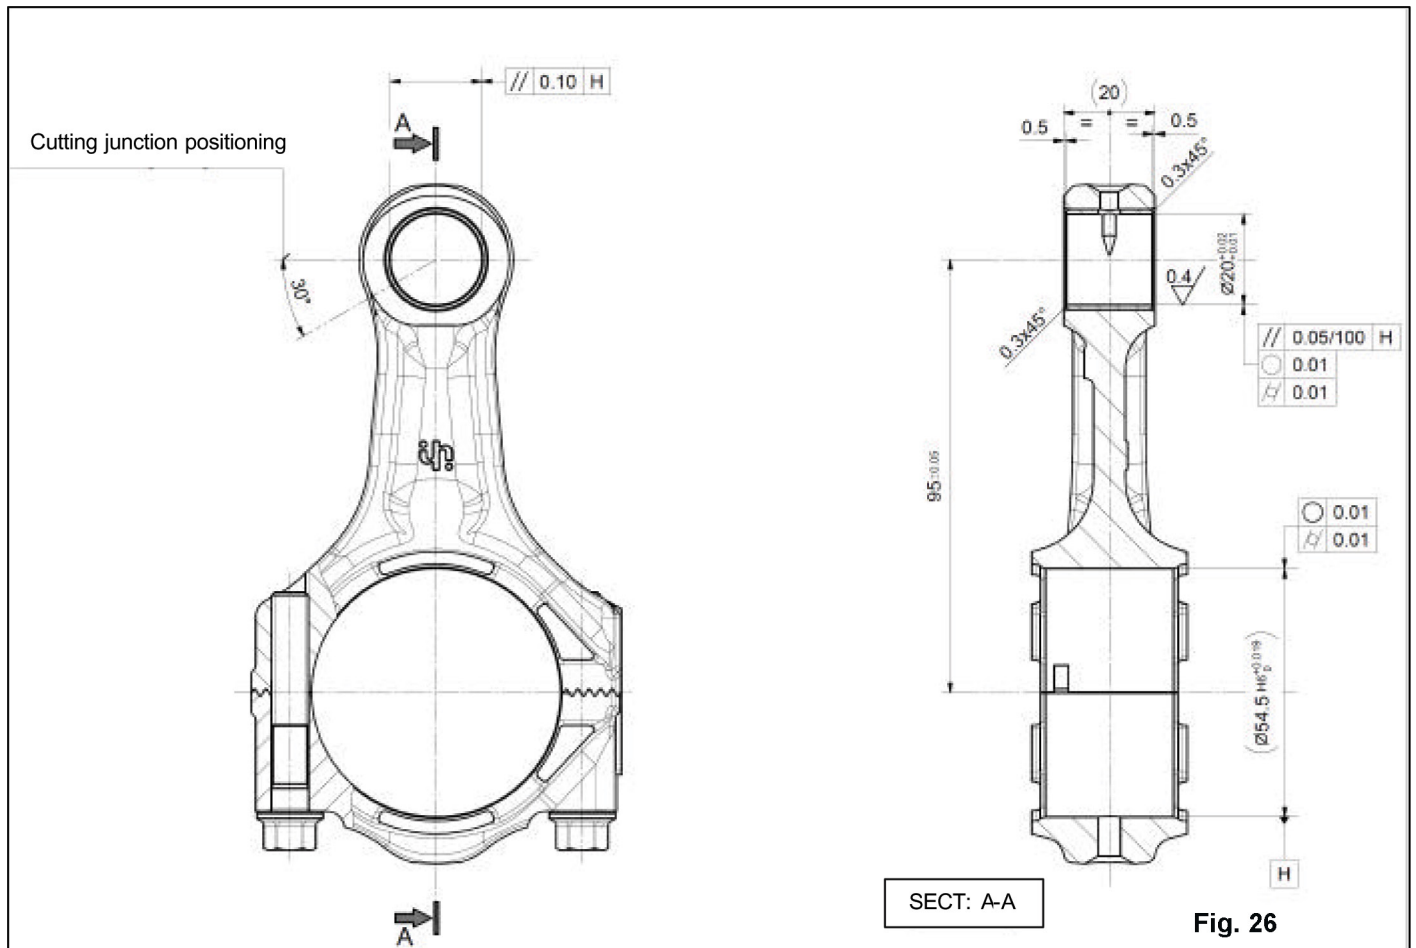

Fig. 26
- the cutting junction is directed as shown in fig. 26
Then perform mechanical processing. The dimensions and tolerances shown in fig. 26 **MUST** be respected.